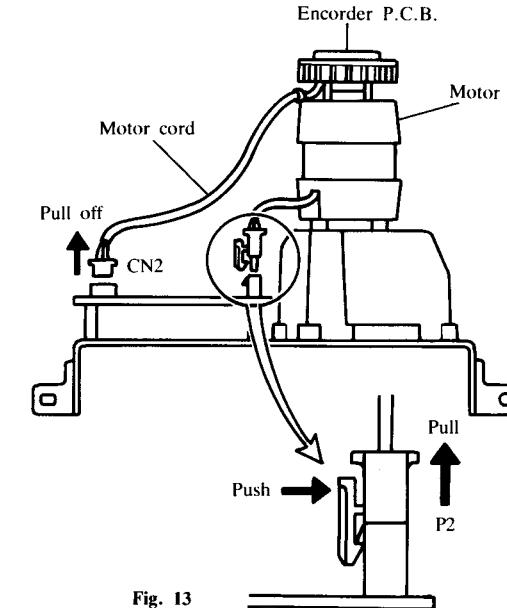

Fig. 13
- (1) Disconnect the Motor (P2, 3 pins) and Encoder P.C.B. (CN2, 3 pins) connectors from the Main P.C.B.. (Refer to Fig. 13)